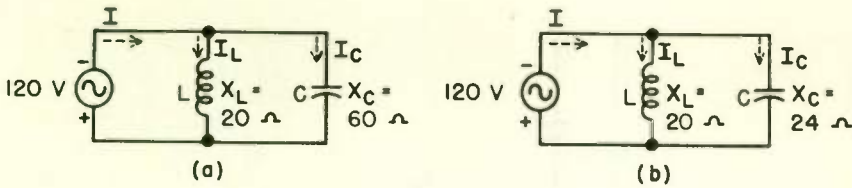

Fig. 22
7. For each circuit of Fig. 22 draw a phasor diagram and find the total current I . In both circuits the current I (a) *(leads)* *(lags)* the applied voltage by (b) _____ degrees. This is because (c) *(I_L is greater than I_C)* *(there is a lot of inductance in the circuit)*.
8. If a circuit has inductance and capacitance but no resistance (as in Fig. 22), then the phase angle between the voltage and the current I is (a) *(always 90°)* *(either 0° or 90°)* *(45° when X_L and X_C are equal)*.
9. If the value of X_L were changed in Fig. 22 so that its reactance was greater than the reactance of X_C , then the current I would *(lead)* *(lag)* the applied voltage.
10. In Fig. 22(b), I_L is (a) _____ amperes, I_C is (b) _____ amperes, and the total current I is (c) _____ amperes. This shows that when an inductor and a capacitor are connected in parallel, the current through either branch may be many times greater than the total current from the voltage source. This is because the current through L is (d) _____ degrees out of phase from the current through C , so that the total current is the difference between I_C and I_L . During that part of the cycle when the current in Fig. 22(b) is flowing down through L , the current through C is flowing (e) *(up)* *(down)*.
11. Comparing Fig. 22(a) with (b), we note that when X_L and X_C are close to the same value, as in (b), the total current I is much *(greater)* *(less)* than when X_L and X_C are widely separated in value as in (a).